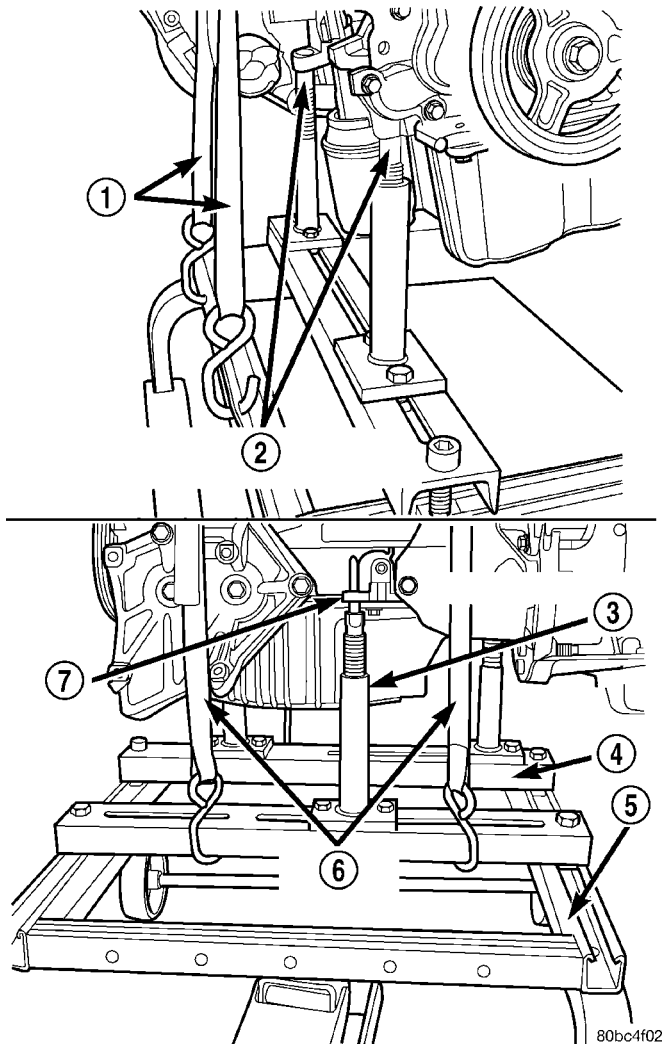

Fig. 9 Positioning Engine Cradle Support Post
(38) Remove bolt securing power steering line to engine block. Reposition power steering line to allow for engine removal.
(39) Lower vehicle.
(40) Raise vehicle enough to allow engine dolly and cradle, Special Tools 6135 and 6710 to be installed under vehicle.
(41) Loosen engine support posts to allow movement for positioning onto engine locating holes and flange on the engine bedplate. Lower vehicle and position cradle until the engine is resting on support posts (Fig. 9). Tighten mounts to cradle frame. This will keep support posts from moving when removing or installing engine and transmission.
(42) Install safety straps around the engine to cradle (Fig. 9). Tighten straps and lock them into position.